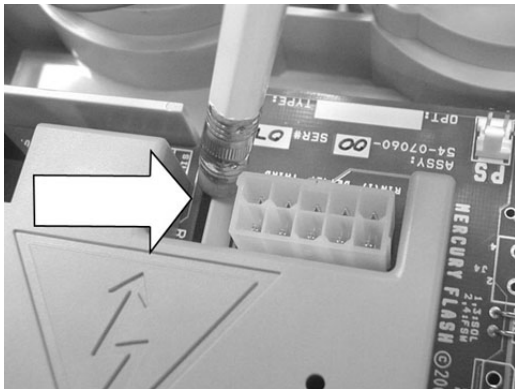
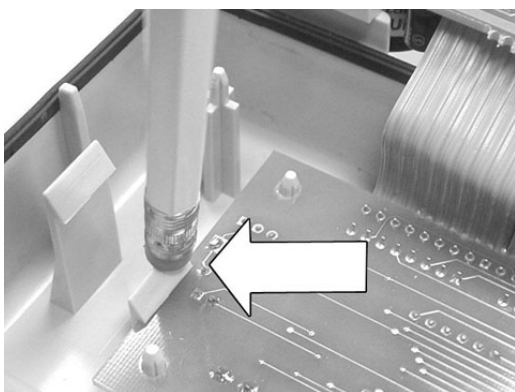

Figure 1a
Figure 2
- 3.0 For removal of the PCB, release it from the snaps (Fig. 1a & 1b) at three points. Tilt the PCB along the top edge. This will release the upper (larger) portion of the PCB. Pivot the larger PCB out of the way to access the lower (smaller) PCB. Release it from the two snaps and remove the entire PCB assembly (Fig. 2).